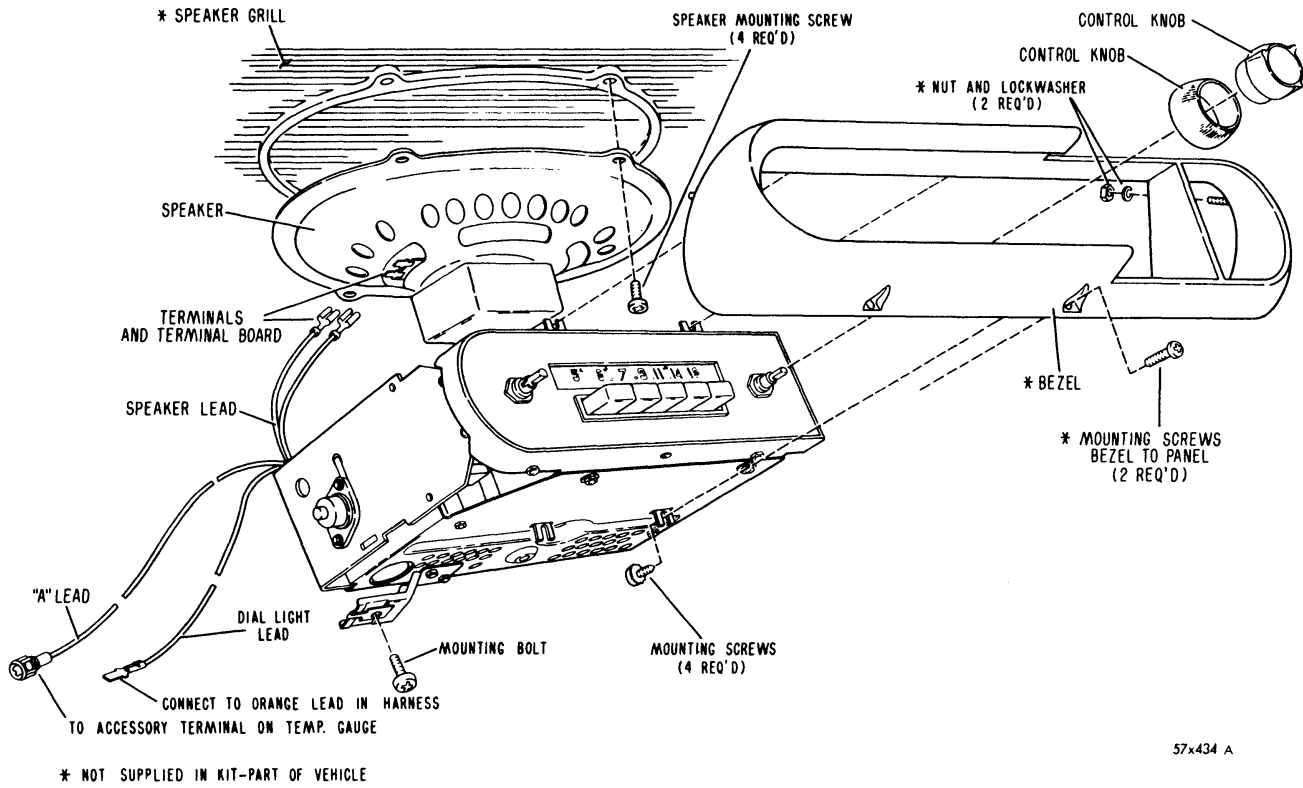

Fig. 4—Radio Model 851
2. INSTALLATION (Figs. 4 and 5)